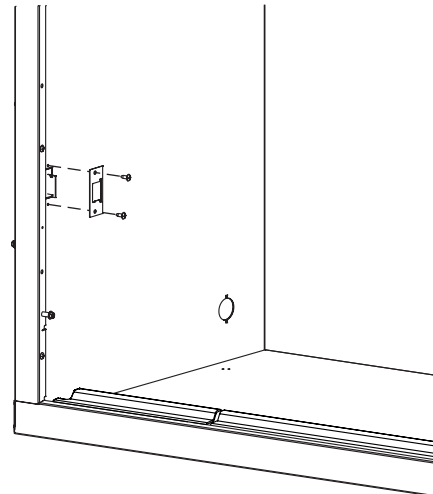

**Figure 14**
2. Bend the tab out of the way. See **Figure 14**.